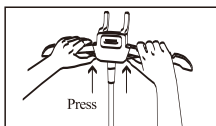

Figure 4
4. To collapse the Folding Rack, press the supporting bars, and the two bars of the Folding Rack will fold down Figure 4